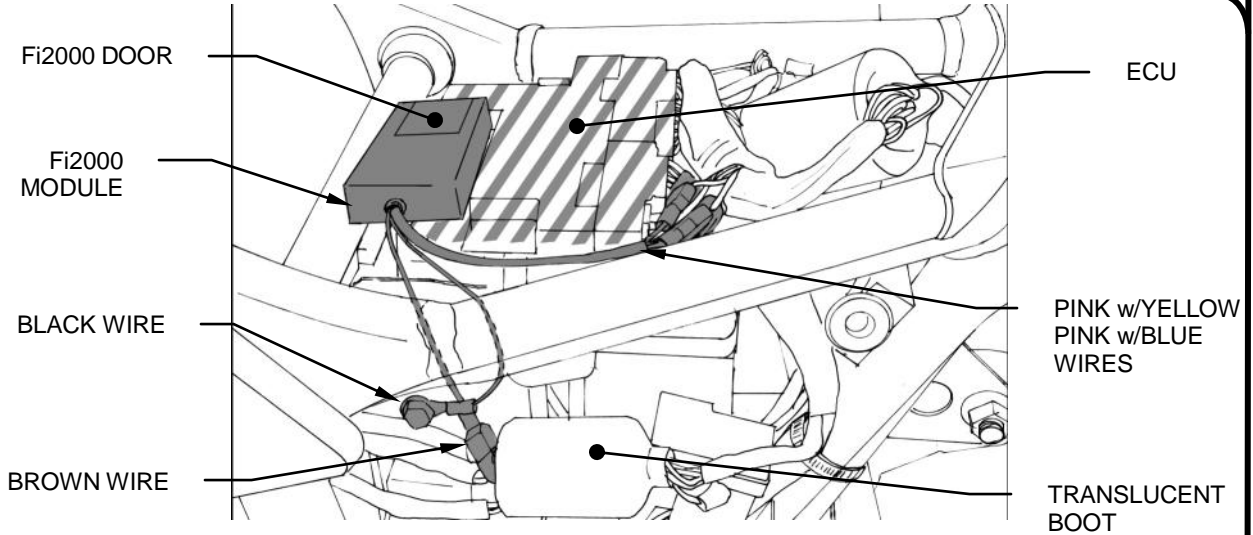

FIGURE 1
3. Locate the BROWN wire in the wiring loom on the right side of the motorcycle where the side cover was (the wire comes out of the translucent boot) Attach a supplied t-tap connector on that wire. Refer to figure 1
4. Place the Fi2000 module on top of the factory ECU towards the rear and the center. Refer to figure 1
5. Feed the BROWN and BLACK Fi2000 module wires down from the top, behind the side frame rail. Refer to figure 1
6. Attach the Fi2000 BROWN wire to the t-tap connector on the BROWN wire and then attach the ring connector on the BLACK wire to the M10 bolt directly above that connection. Refer to figure 1
7. On the front right side of the factory ECU find the PINK w/BLUE stripe and PINK w/YELLOW stripe wires coming out of the ECU. Attach the t-tap connectors to each of those two wires and then plug the corresponding colored wires from the Fi2000 to each of those t-tap connectors. Refer to figure 1.
8. Remove the backing from the Velcro and attach the module to the top of the ECU (see fig 1).
9. Before re-installing the seat and side cover, verify your connections. Remove the door from the Fi2000 box to expose the LED's. Verify the wire connections by (1) turning the ignition on, prior to starting, and see if all three LED's are on steady. If you have no light, either your ground connection (BLACK wire) is not solid or, (more likely) your BROWN wire connection is incorrect. You have either tapped on the wrong wire or the tap has not made contact. (2) After achieving a steady light from all three LED's, start the motorcycle and let it idle, the green light should now be the only LED on. If all three LED's are still on after start up, your PINK w/BLUE stripe wire connection is incorrect; if all three LED's are flashing, your PINK w/YELLOW stripe wire connection is wrong. Again verify correct color and tap contact. Reattach the door when finished. **Note:** Make sure the ignition is turn off before changing any connection.